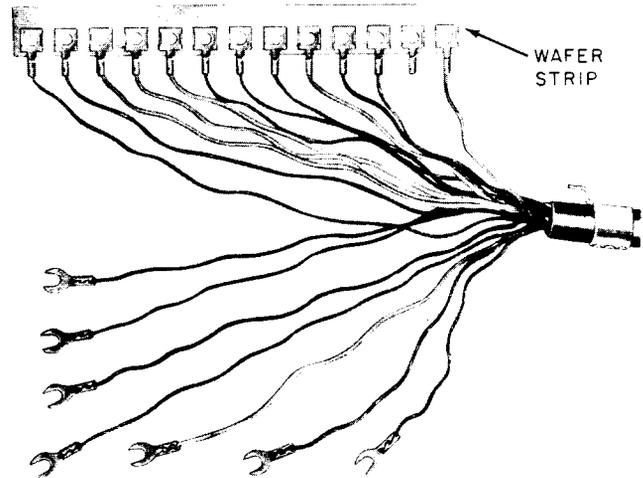

Fig. 1—Nonslotted Wafer Strip End of Mounting Cord, Early Type
2.04 Replace mounting cords of early manufacture (Fig. 1) as follows: